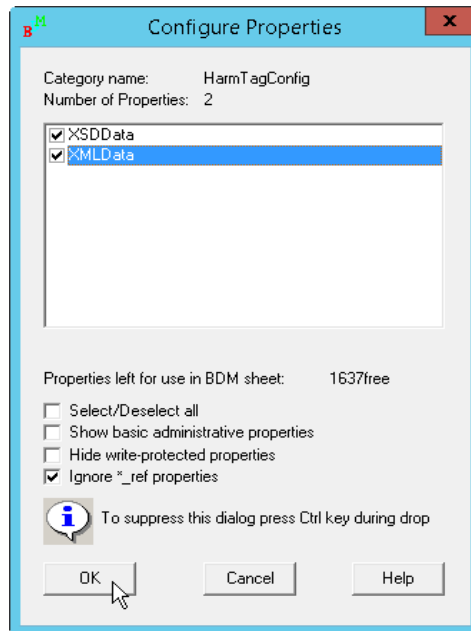

Figure 43. Configure Properties Dialog
3. In the Configure Properties dialog, check both the **XSDData** and **XMLData** check boxes and then click **OK** as shown in Figure 43.